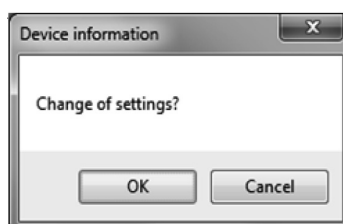

Fig.74
- ⑤ After all settings are complete, click the "OK" button to display a message box (Fig. 74).